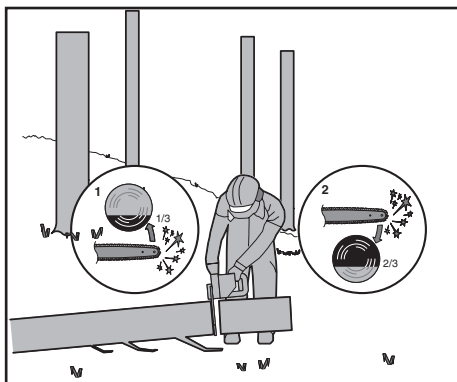

Figure 4
When the log is supported on one end, as illustrated in Figure 4, cut $\frac{1}{3}$ the diameter from the underside (underbuck) (1). Then make the finished cut by overbucking (2) to meet the first cut.